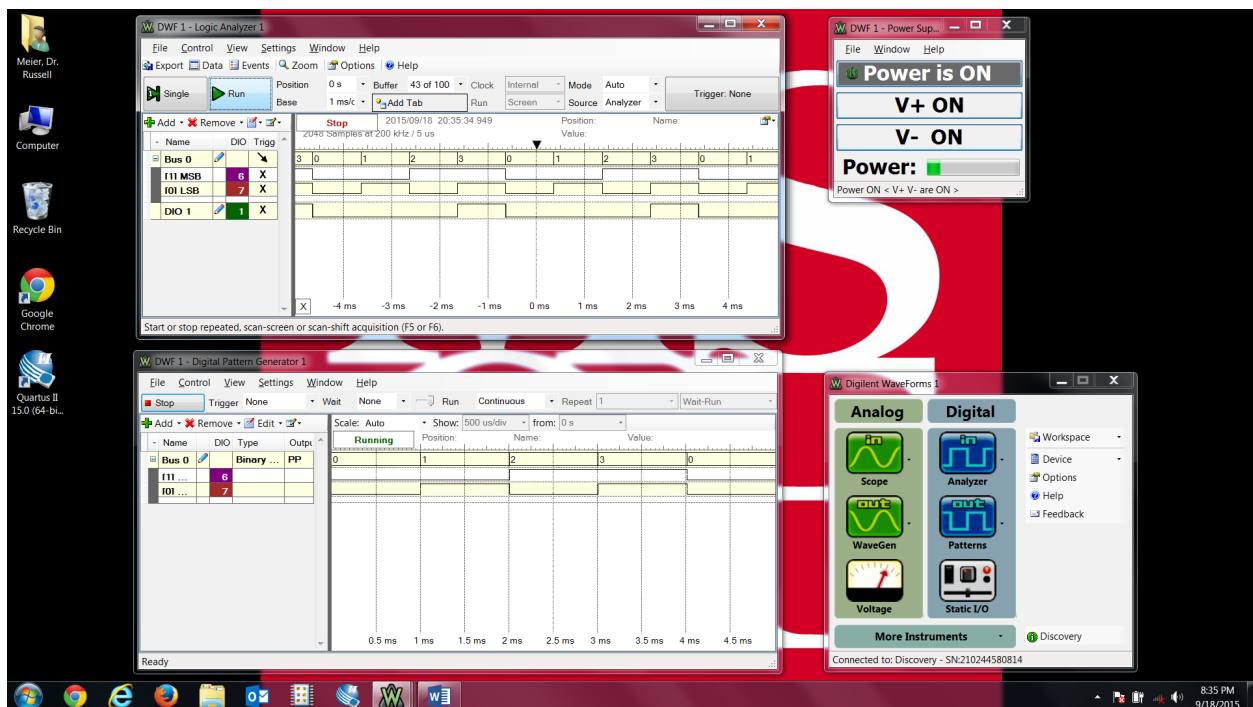

Figure 8: The Completed 7408 AND Gate Test
- Verify** that the AND gate is functioning by comparing your logic analyzer timing diagram against the AND truth table. The timing diagram should look similar to Figure 8.